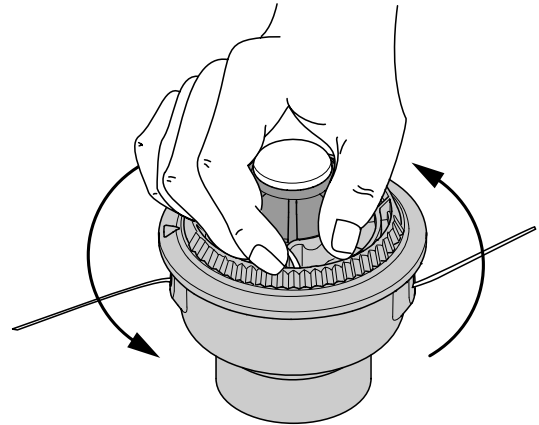

Fig. 19
8. Hold the outer spool. Wind the inner reel counterclockwise until approximately four (4) inches (102 mm) of line remain (Fig. 19).